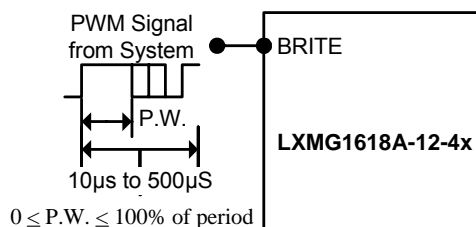

Figure 1A – PWM Brightness Control
- The brightness control may be a voltage output DAC or other voltage source, a digital pot or 500K manual pot. The inverter contains effectively an internal 338k pull-up to 3V to bias the pot, if desired; add a resistor to set the lower threshold voltage above the absolute minimum dim level capability. A PWM logic level signal (figure 1A) may be used up to 5V; however the inverter will reach maximum current at less than 100% duty cycle. This can be calculated as approximately 2V divided by the logic high voltage level; with 3.3V logic level this corresponds to about 60% duty cycle for maximum lamp current.